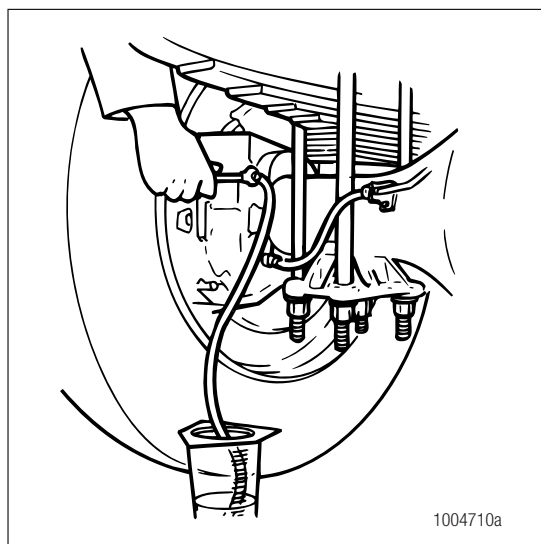

Figure 3.5
9. Submerge the tubing in a container of clean hydraulic brake fluid. Figure 3.5.
7. Submerge the tubing in a container of clean brake fluid. Figure 3.5.